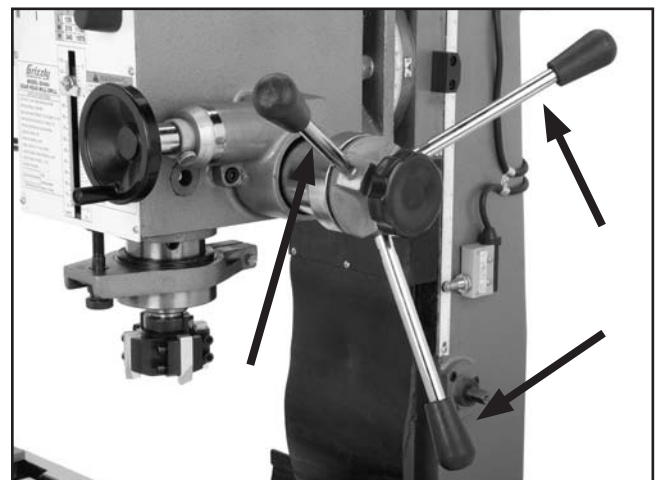

Figure 9. Downfeed handles installed.
3. Thread the quill feed levers onto the downfeed hub and tighten with a 12mm wrench (see Figure 9).